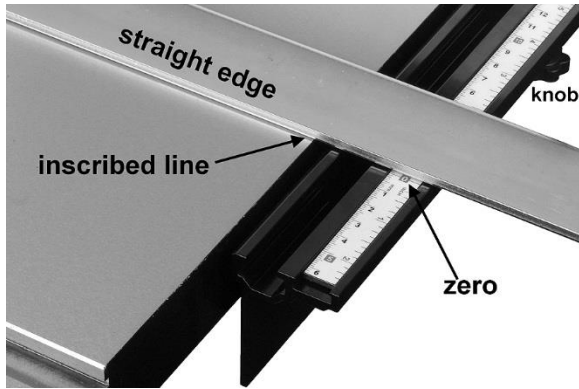

Figure 5-9
3. Carefully align zero mark on scale with inscribed line at edge of table (see Figure 5-9). This is best done using a steel straight edge or carefully jointed piece of wood laid across entire width of table and along the inscribed lines. Tighten knob to fix scale position. Repeat for other side.
The fence must be set parallel to miter slot when using miter gauge. This can be done quickly by moving fence to equal dimension on left and right scales if the initial fence alignment was done properly (see sect. 5.7 and Figure 5-9).